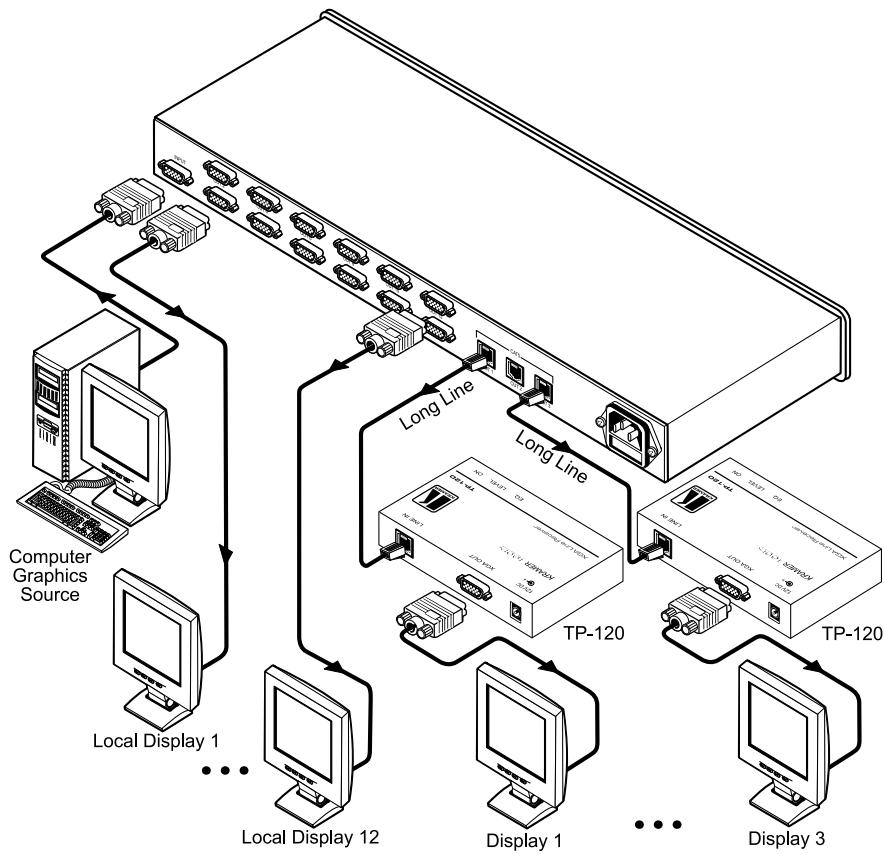

Figure 3: Connecting the VP-12NHD 1:12 + 3 UXGA / CAT5 Distributor
This section describes how to connect the **VP-12NHD 1:12 + 3 UXGA / CAT5 Distributor**. The example in Figure 3 illustrates how to output a computer graphics signal from a computer to up to 12 local monitors, as well as how to transmit it over UTP cabling to 3 **TP-120 XGA Line Receiver** units.
5. Connect the power cord³ (not illustrated in Figure 3).